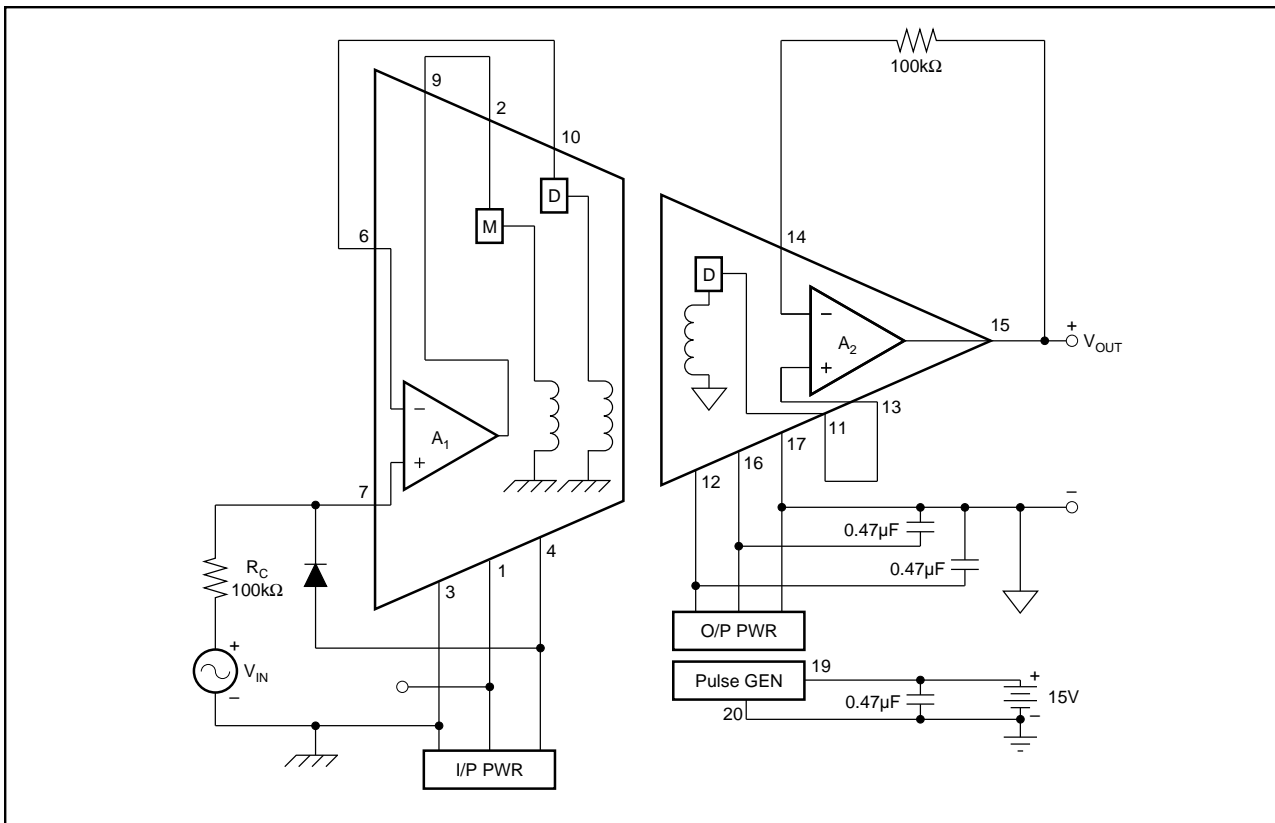

FIGURE 2. Power: Three-Port Isolation; Signal: Unity-Gain Noninverting.
5. The input voltage at pin 7 (noninverting input to A_1) must not exceed the voltage at pin 4 (negative supply voltage for A_1) in order to prevent a possible lockup condition. A low leakage diode connected between pins 7 and 4, as shown in Figure 2, can be used to limit this input voltage swing.
NOTE: Figures 2, 3 and 4 are used to illustrate both signal and power connection configurations. In the circuits shown, the power and signal configurations are independent so that any power configuration could be used with any signal configuration.
The power supply connections in Figure 2 show the full three-port isolation configuration. The system has three separate grounds with no galvanic connections between them. The two external $0.47\mu\text{F}$ capacitors at pins 12 and 16 filter the rectified isolated voltage at the output stage. Filtering on the input stage is provided by internal capacitors. In this configuration continuous isolation voltage ratings are: 3500V between pins 3 and 17; 3500V between pins 3 and 19; 1000V between pins 17 and 19.
The signal path portion of Figure 2 shows the 3656 in its simplest gain configuration: unity gain noninverting. The two $100\text{k}\Omega$ resistors provide balanced resistances to the inverting and noninverting inputs of the amplifiers. The diode prevents latch up in case the input voltage goes more negative than the voltage at pin 4.